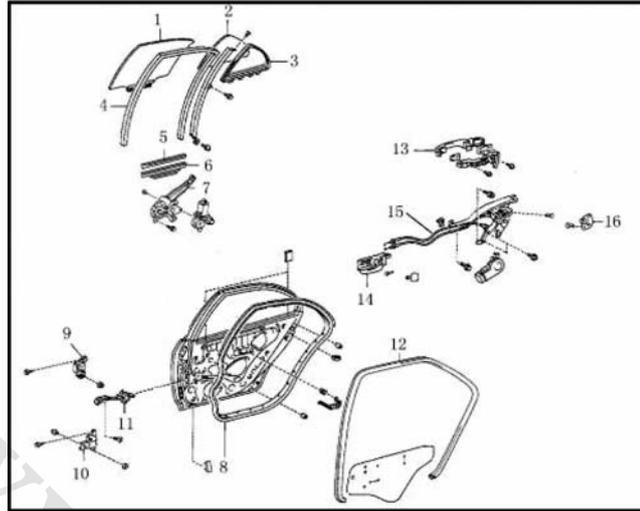

Fig .7-6
I. Decomposition Diagram. See Fig. 7-6: